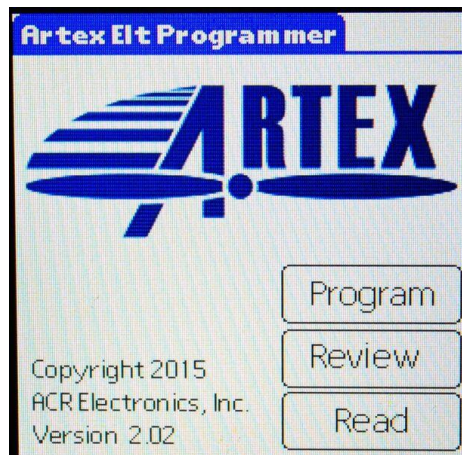

Figure 6: Artex Software Main Screen
2. The Artex main screen is shown in Figure 6.